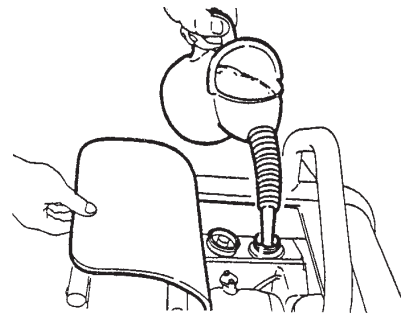

Figure 6. Refueling
2. Visually inspect to see if fuel level is low. If fuel is low, replenish with diesel fuel (Figure 6).